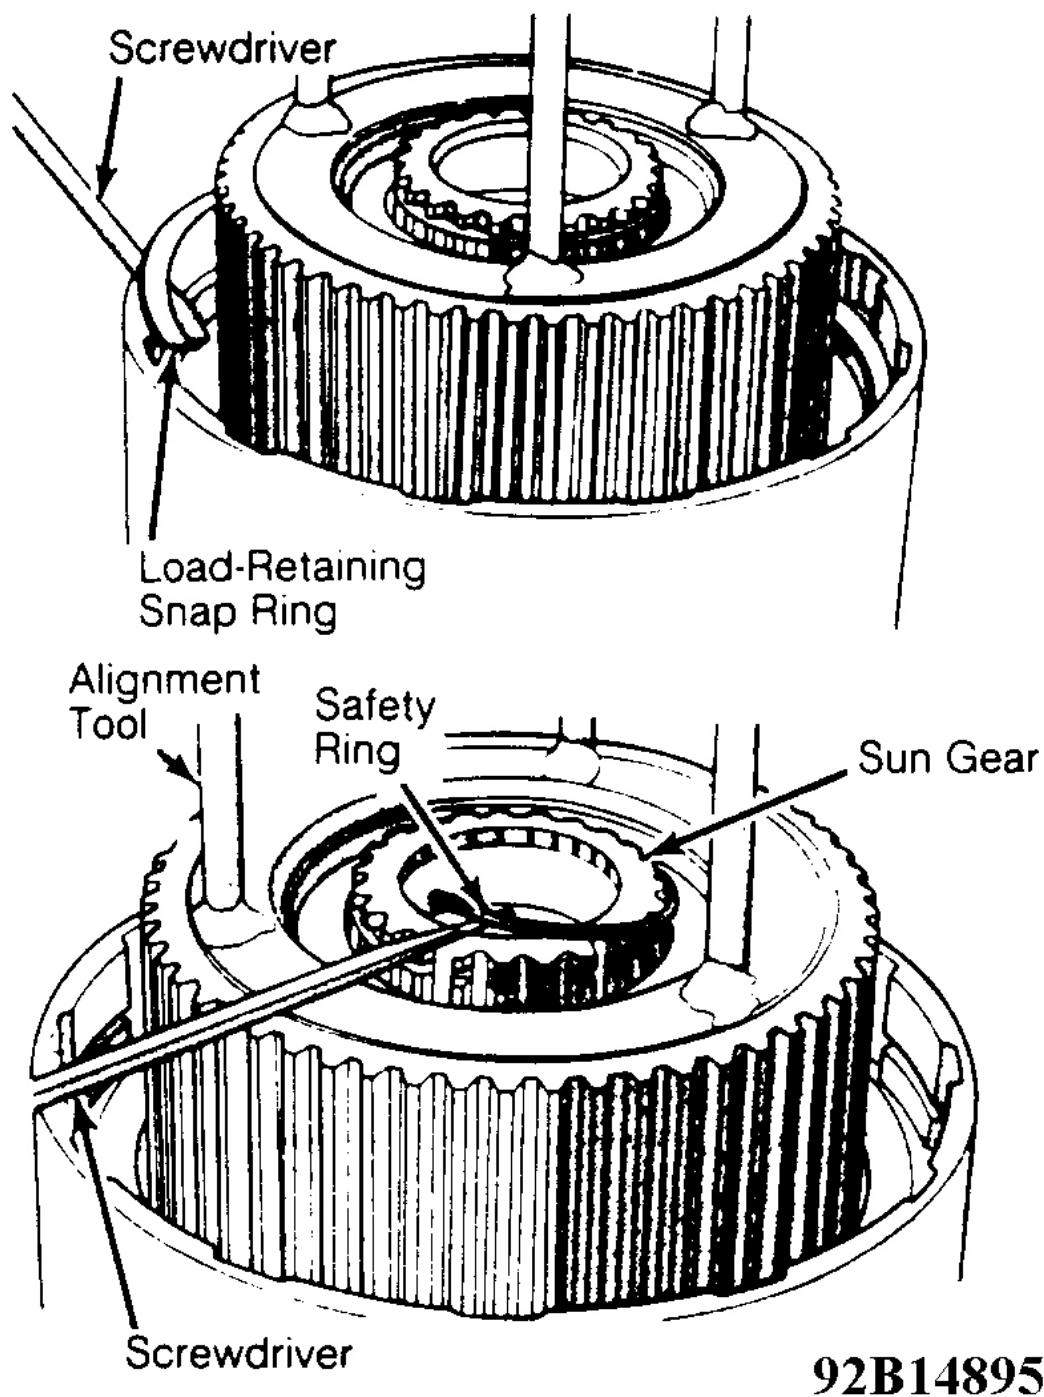

Fig. 20: Disassembling Direct Clutch
6. To remove parking pawl components, remove retaining bolt and lightly tap OD case on bench. Parking pawl components will drop out. Using a press, Alignment Tool (C-6227-1), and a fixture that will support the output shaft flange, compress the direct clutch spring. See **Fig. 20** .